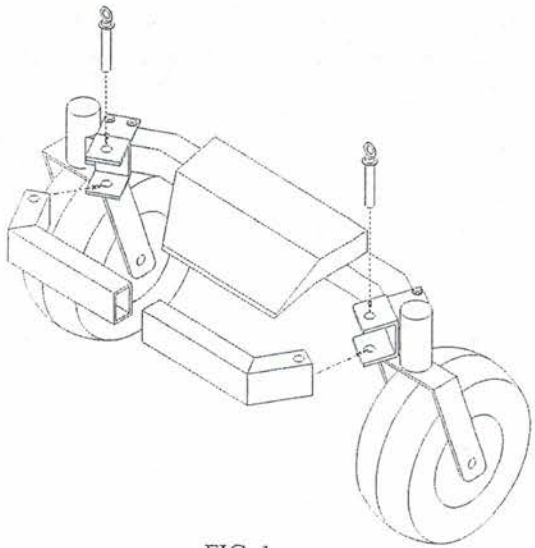

FIG. 1
2. Slip each crosstube into caster arm mounts and pin in place with $\frac{3}{4}$ " pin and hairclip provided. **FIG. 1**